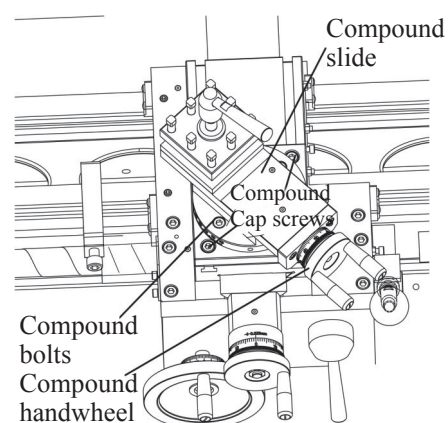

Figure 16 Loosening the compound slide bolts and compound cap screws.
4. Loosen the compound Cap screws shown in Figure 16 to allow it to be transversal traveled.